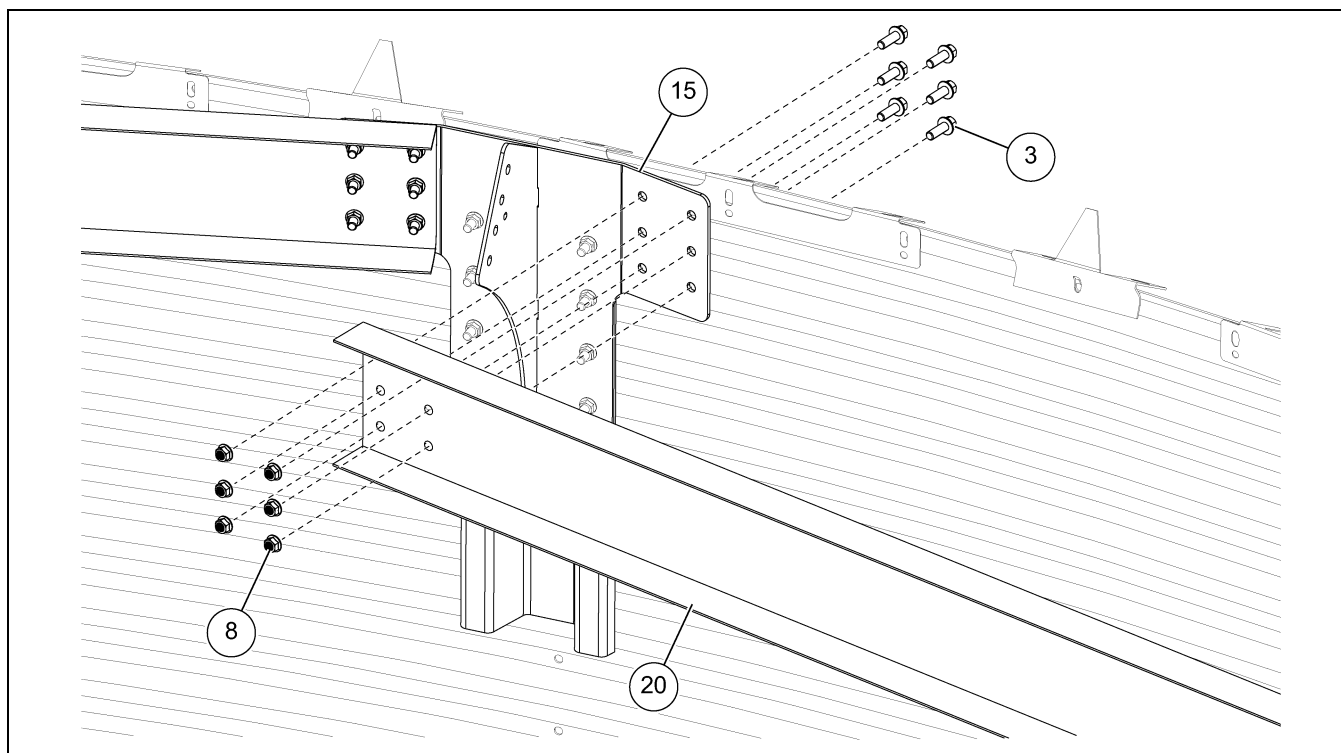

Figure 4G *Installing the Compression Member to the Eave Bracket*
1. Lift and support the compression member (20) against the outside mating surface of the eave bracket (15). (See Figure 4G.)
2. Install 7/16" x 1-1/4" flange bolts (3) and 7/16" flange nuts (8) to each end of the compression member (20).